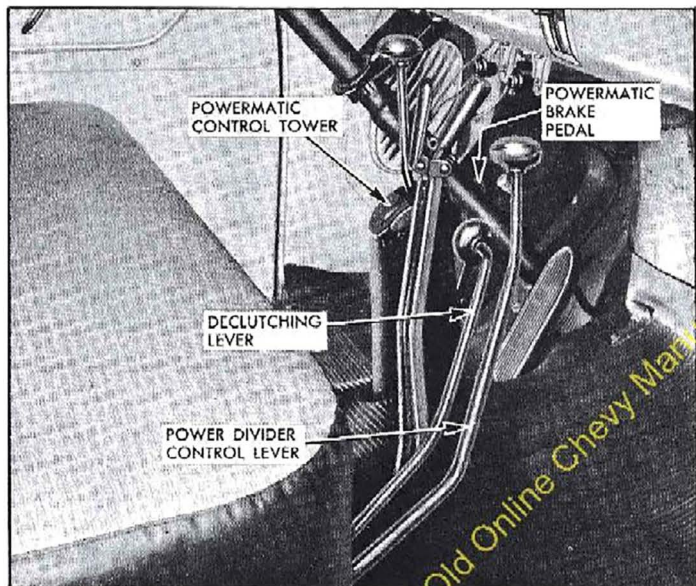
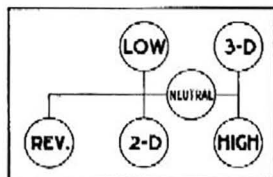

Fig. 2—Instruments and Controls—Tandem Axle
Fig. 11—Four Speed Transmission Shifting Diagram
**Gearshift Lever (4- and 5-speed Synchronesh Transmission)** extends to the left and back from transmission cover dome at center of floor (fig. 2). This lever is used to shift the transmission gears to the desired position. Figure 11 shows the lever knob positions
**Shift Control Lever (Powermatic Transmission).** The shift control lever located on the transmission tower (fig. 2) is used to select neutral, one of three forward speed ranges, or reverse. These positions are marked on the top of the tower and are described in further detail on pages 17-22.